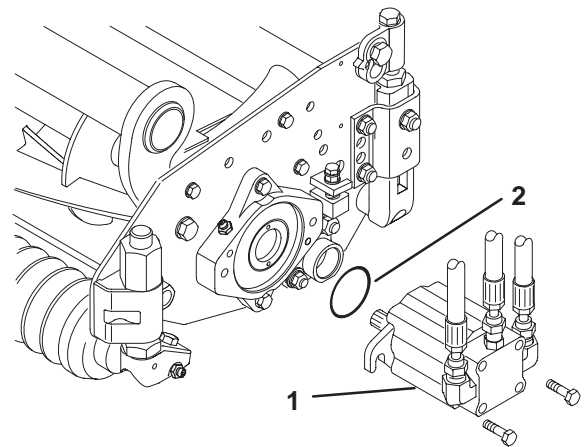

Figure 6
- Mount the motor to the drive end of the cutting unit and secure with two capscrews provided (Fig. 6).